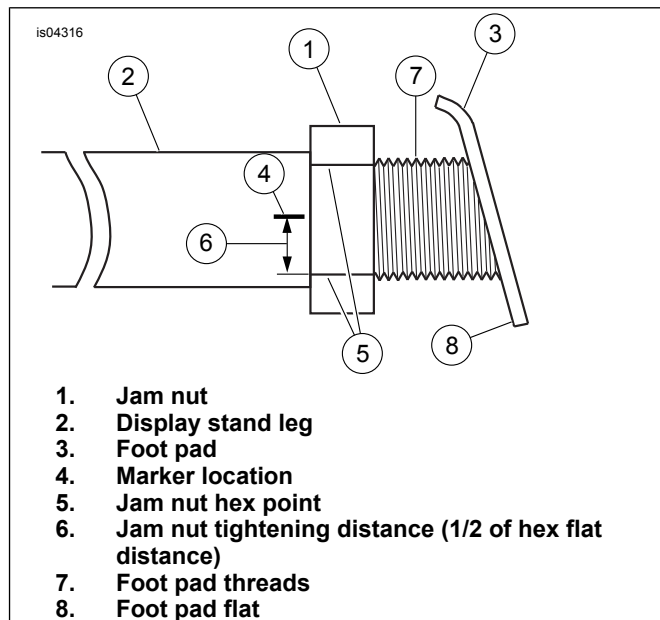

Figure 3. Display Stand Leg Adjustment Procedure
1. See Figure 3. With a grease pencil or suitable marker, draw a line (4) on the display stand leg (2) half way between jam nut hex points (5).
2. Using an adjustable wrench to hold foot pad, tighten the jam nut half the distance of the jam nut flat area (6) to lock display stand leg into position.
7. See Figure 3. If foot pads are adjusted correctly, then snug jam nuts (1) up against display stand legs (2) and proceed to Step 4, under "Adjustment Procedure".